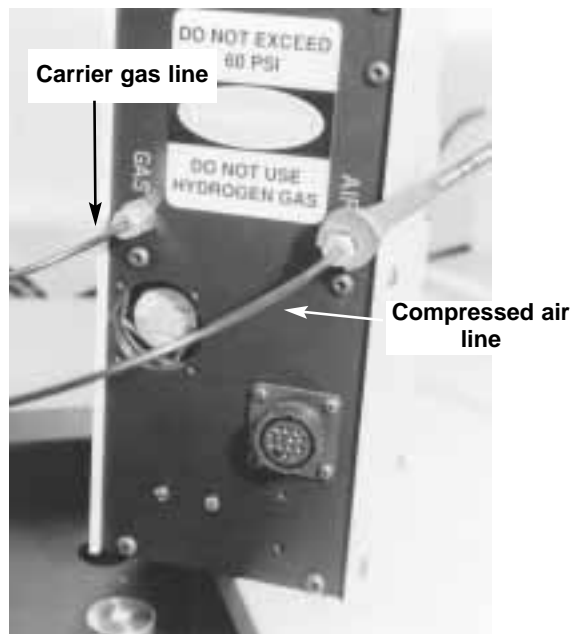

Fig 3.62 1/8" PTFE tubing is used for the carrier gas line and the compressed air line on the S.P.T.D. unit.
16. The back of the SPTD Desorption Unit has two 1/8" Swagelok™ fittings for connection of the carrier gas and the air that is used to operate the SPTD system. They are labeled AIR and GAS. See **Figure 3.62**. Connect the free end of the PTFE tubing from the carrier gas solenoid valve assembly to the "GAS" fitting on the back of the Desorption Unit. Be sure that the tubing is fully seated in the fitting and then tighten 3/4 turn past finger tight.